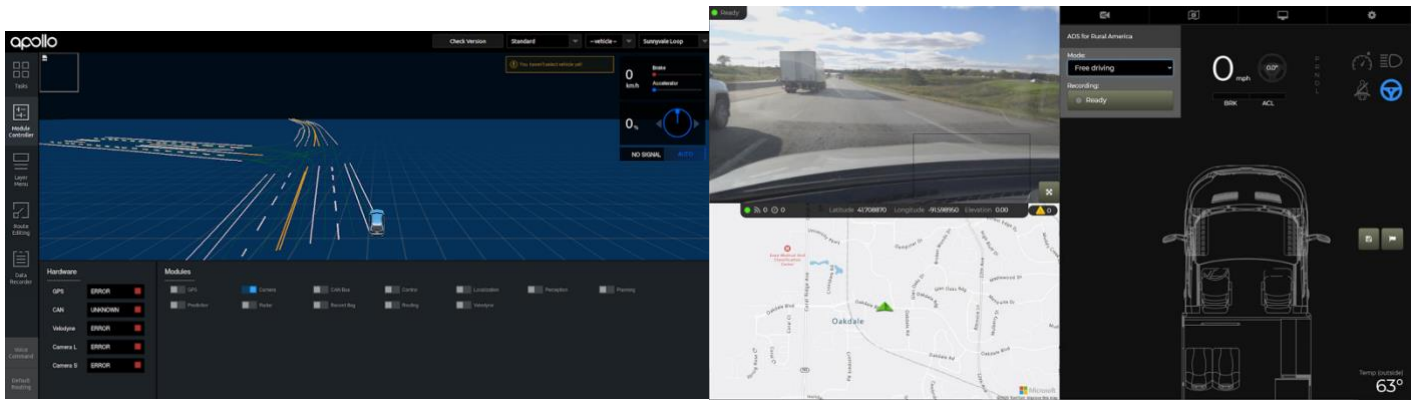

Figure 5. Draft renderings of the co-pilot safety interface; Dreamview from Apollo (top), IVy Control Panels (bottom)
- Figure 5. Draft renderings of the co-pilot safety interface; Dreamview from Apollo, IVy Control Panels5
The ADS has been designed to detect certain, but not all, faults in vehicle control modules. These include, braking, steering, accelerating, shifting, and communication. A display will be located near the co-pilot that provides safety-related information regarding the health and status of each module and therefore the level of automation available at different points along the drive (see Figure 5). It will be the job of the co-pilot to monitor this display and communicate any issues. The safety driver should always pay attention to the vehicle and surroundings and be ready to perform a safety takeover. Additionally, before operating the vehicle, the operators should always complete a full startup procedure to ensure all control systems are properly functioning. Audible alerts will sound during faults, mode changes, and when the by-wire system E-stop is depressed. It should be noted that the by-wire systems are fail-passive. For instance, a failure in the steering “by-wire” system will not interfere with the driver’s ability to manually control the vehicle. Return to automated mode will not be possible until the fault has been cleared and the safety driver and co-pilot agree that it is safe to do so.